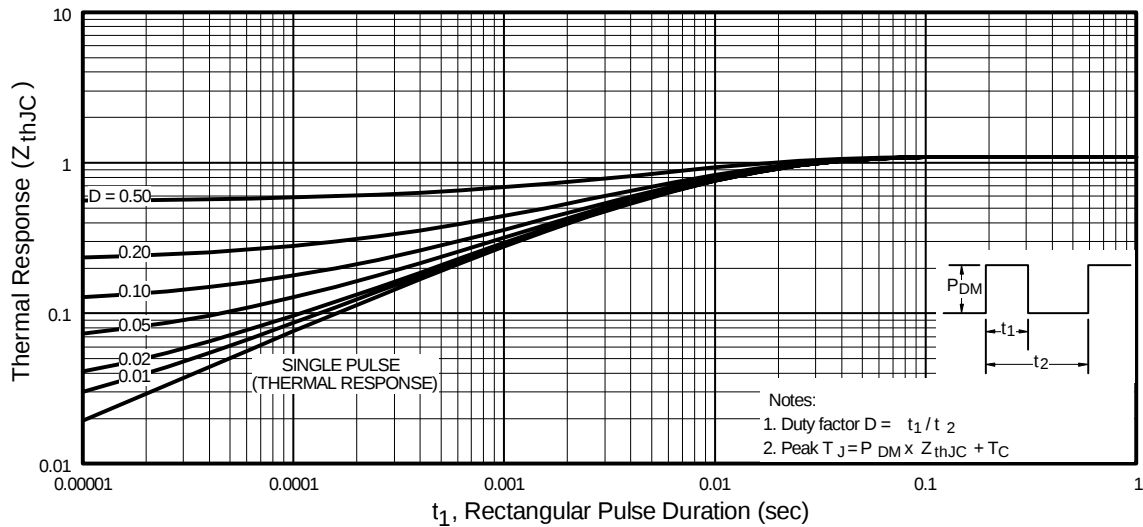

Fig 11. Maximum Effective Transient Thermal Impedance, Junction-to-Case
① Repetitive rating; pulse width limited by max. junction temperature. (See fig. 11)
② Starting $T_J = 25^\circ\text{C}$, $L = 7.1mH$